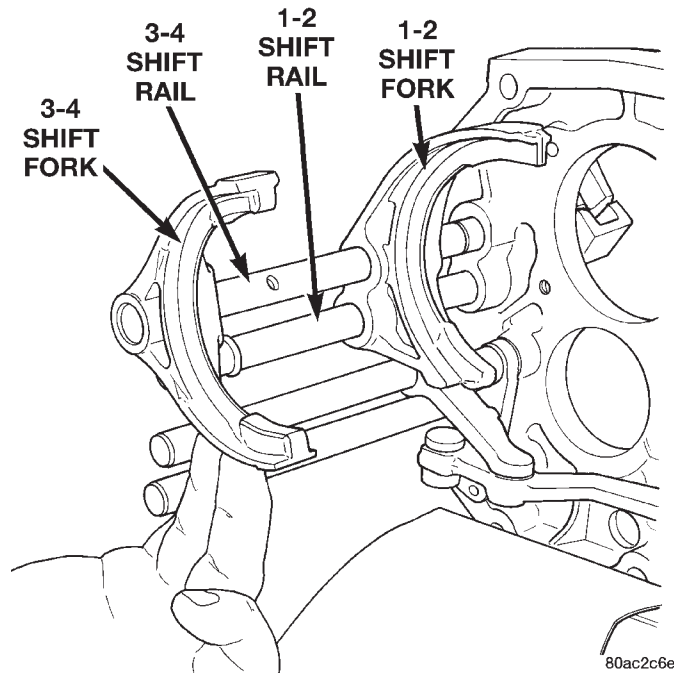

Fig. 86 Install 3-4 Shift Fork
(19) Install the snap-ring onto the 1-2 shift rail.
(20) Install the 3-4 shift fork onto the 3-4 shift rail (Fig. 86).